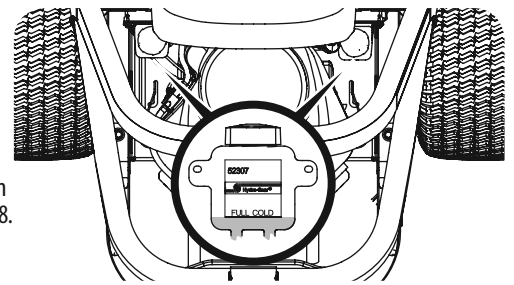

Figure 38
1. Clean the reservoir cap and the area around the cap to prevent debris from contaminating the transmission oil. See Figure 38.
2. Turn the reservoir cap counter-clockwise to remove, then check the oil level in the reservoir. Oil should be visible at the bottom of the cup, but the oil level must NOT be above the "FULL COLD" line. See Figure 38. **DO NOT FILL THE RESERVOIR.**
1. Remove the cap from the transmission oil expansion reservoir. See Figure 38.